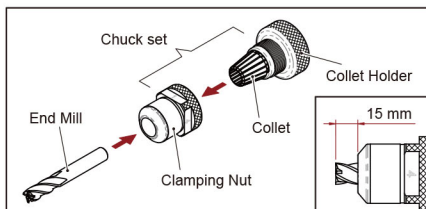

Fig. 2-2
5. Screw in a little bit by clamping nut, then insert end mill shank into the clamping nut until the end mill tip is about 15 mm out of the clamping nut (Fig. 2-2), slightly screw the chuck set to tighten the end mill a little bit.